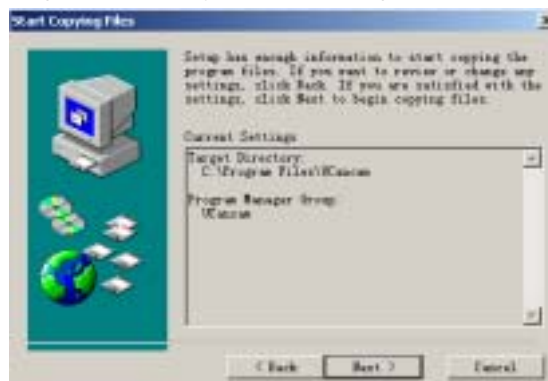

Fig.1-7
8. Click Next, and Start Copying Files dialog (Fig.1-7) is shown. The selected installation path and file are shown in the dialog. Click Back if you want to change the path and file.